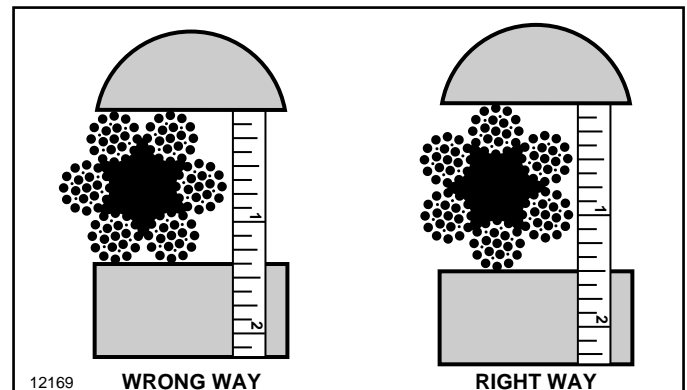

Figure 8-2. Correct Method of Measuring Rope.
- (1) Reduction of rope diameter due to loss of core support, internal or external corrosion or wear of outside wires from nominal diameter of more than 3/64 inch (1.19 mm) for diameter to and including 3/4 inch (19.05 mm). Correct method of measuring hoisting rope is shown in Figure 8-2.